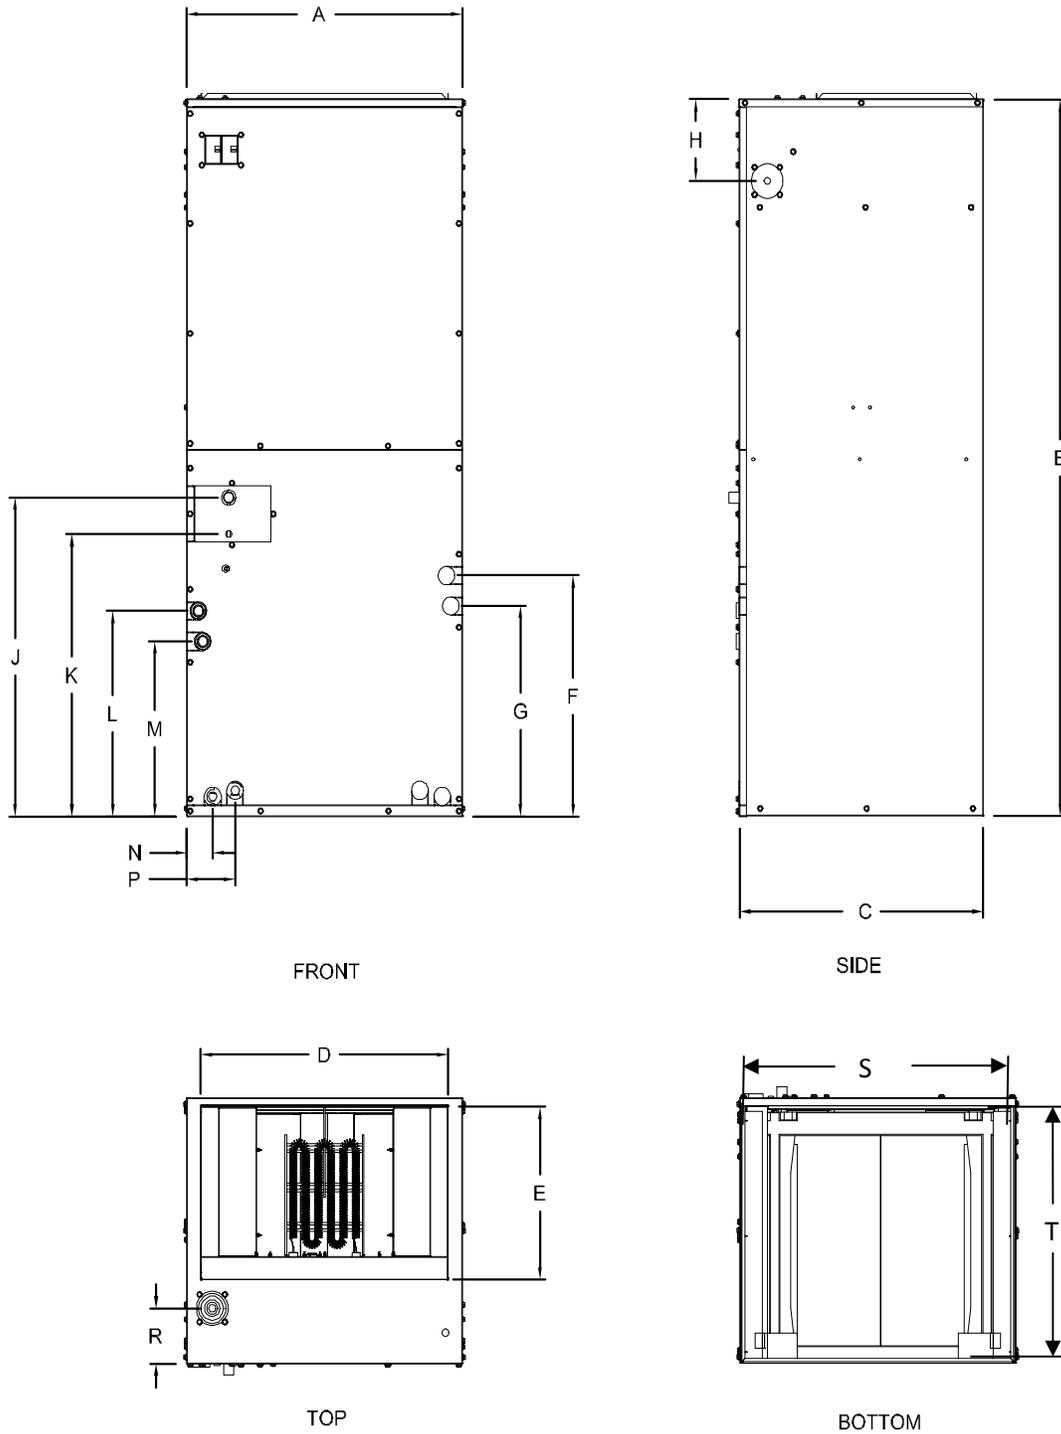

Figure 1: MSPS DIMENSIONAL DATA DX COOLING WITH OR WITHOUT ELECTRIC HEAT
1. Refer to the unit rating plate for the air handler model number, and then see the dimensions page of this instruction for return air plenum dimensions in Figures 1 and 2. The plenum must be installed according to the above listed codes or the instructions in this manual.